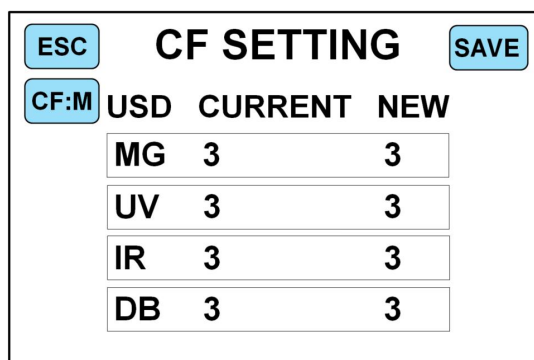

Figure 38
2) Touch “1. Counterfeit level” to enter the interface of counterfeit level setting, as shown in Figure 38 below:
d) Click “**Save**”, and the display interface will jump back to the interface shown in Figure 38.